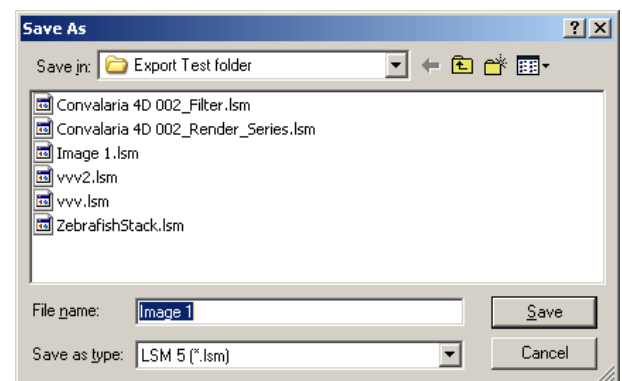

Fig. 27 Save as window
- The **WINDOWS Save As** window (Fig. 27) appears.